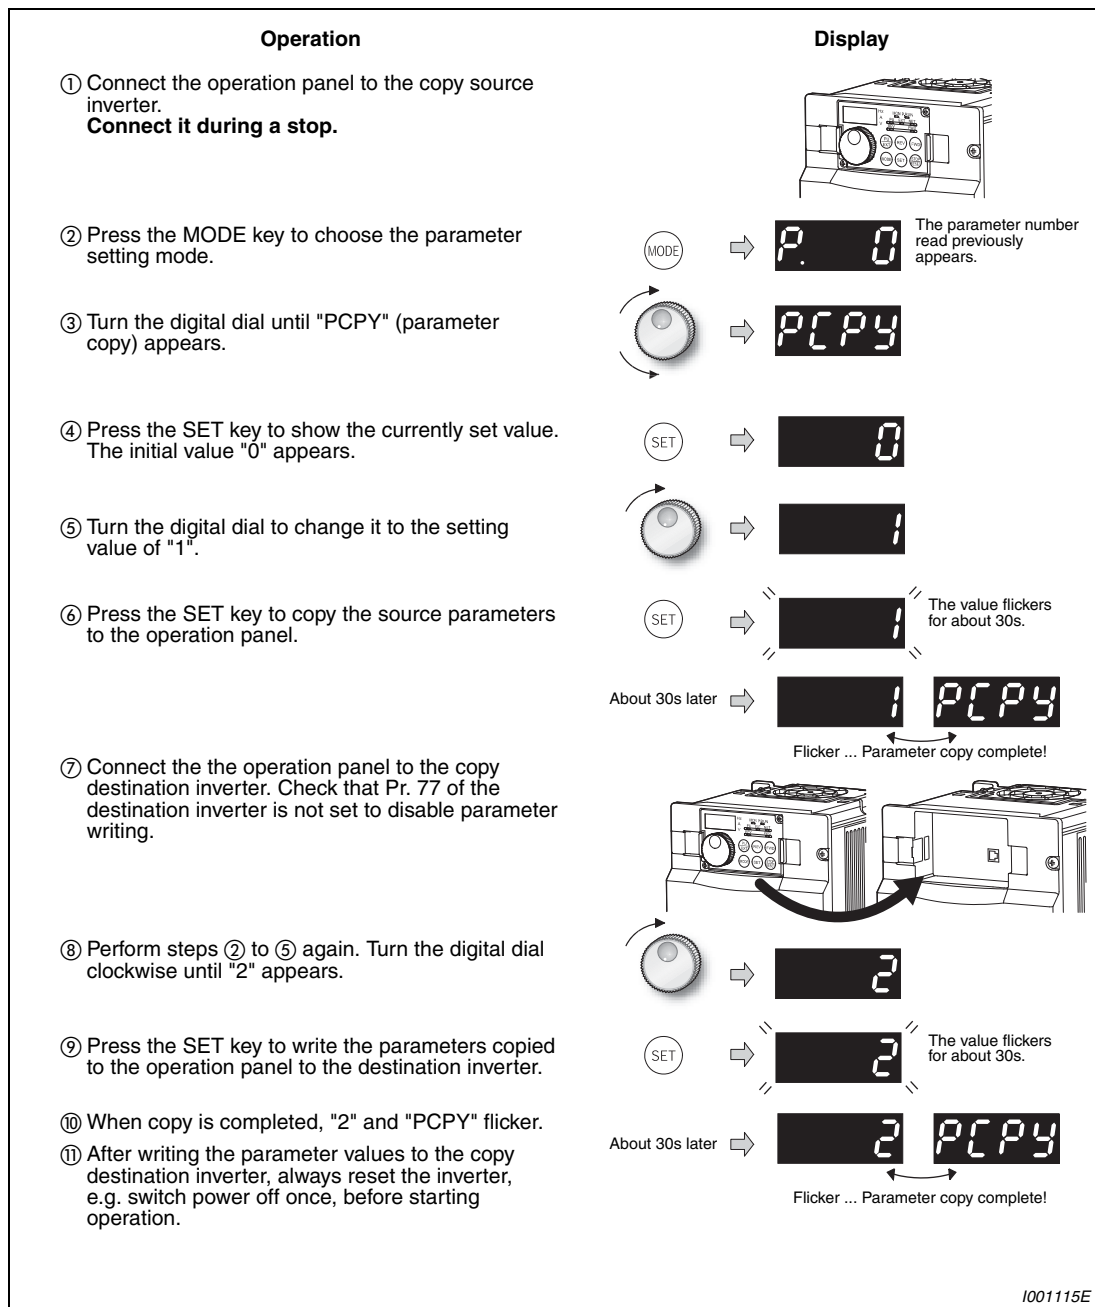

Fig. 4-11: Parameter copy
- A parameter read error has occurred. Perform operation in Fig. 4-11 from step ③ again.
- A parameter write error has occurred. Perform operation in Fig. 4-11 from step ⑧ again.